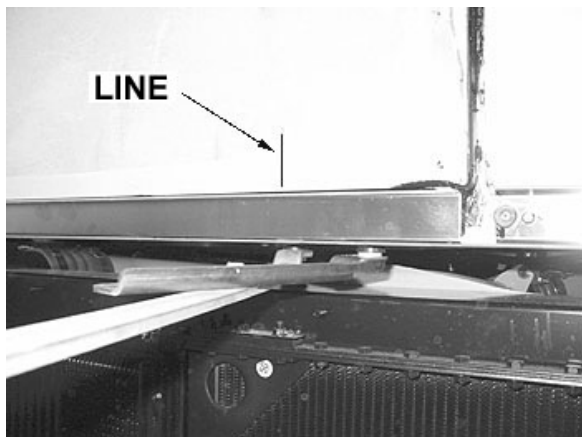

FIGURE 62: REFERENCE LINE
- Using a rubber mallet, adjust the lower part of pantograph arm in order to get  $4 \pm 1$  mm between lateral panel and engine door (Refer to Figure 62 and Figure 63).